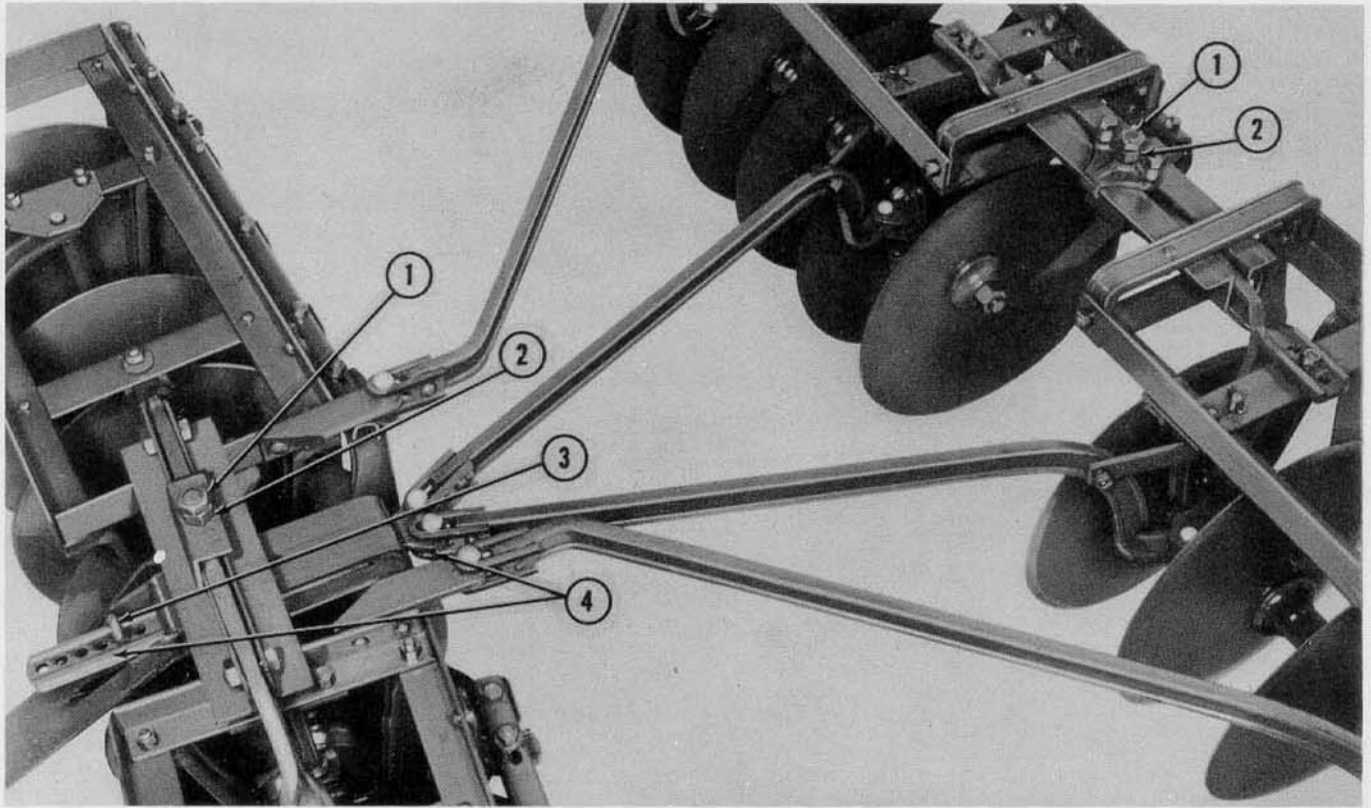

Figure 14
1. Loosen snubber adjusting bolt lock nut (1), Figure 14.
2. Loosen snubber adjusting nut (2) to lower outer ends of disc gangs or tighten snubber adjusting nut to raise outer ends of disc gangs.
Rear Gang Angle Adjustment: The angle of the rear gangs may be adjusted independently by removing the eyebolt (3), Figure 14, and sliding the adjusting bar (4) forward or backward until rear gangs have desired angle. Replace eyebolt.